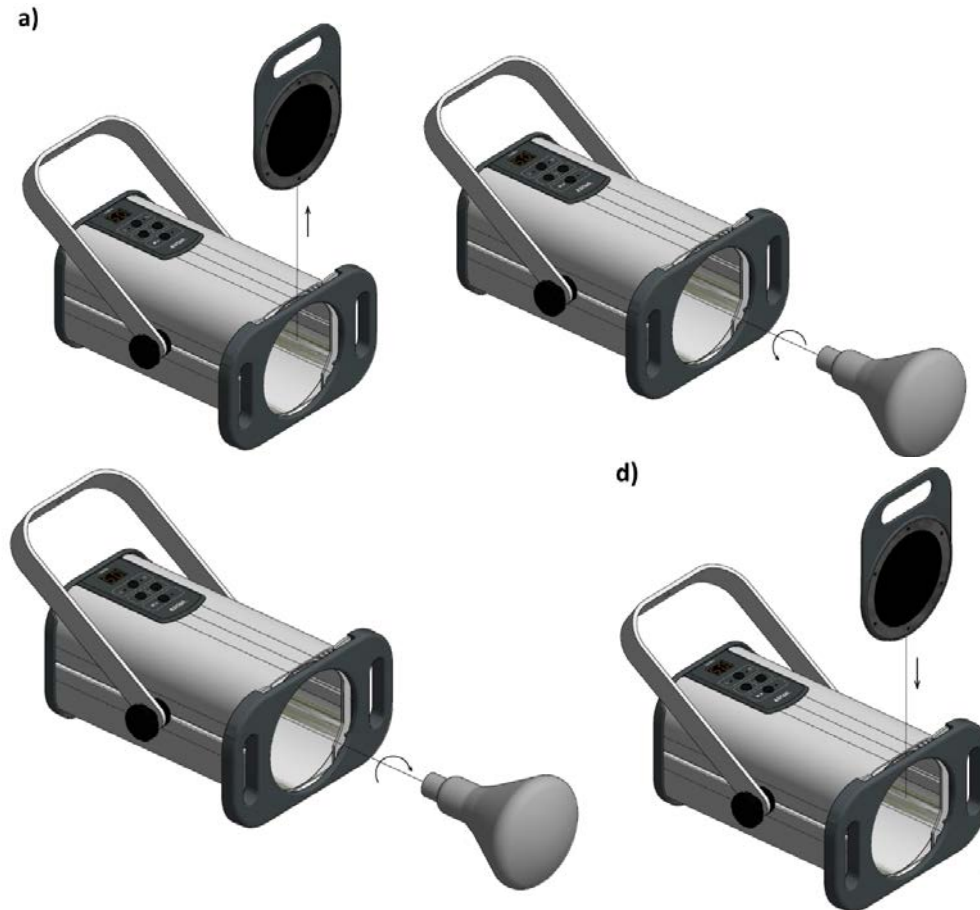

Figure 10.1. Filter and bulb replacement
Step	Description (Figure 10.1.)
3.	Remove the filter from the front of the lamp (Figure 10.1. a).
4.	Unscrew the bulb (it is easier to do this after turning the tube down) - Figure 10.1. b.
5.	Screw a new bulb (Figure 10.1. c).
7.	Put the filter into the front of the lamp (Figure 10.1. d).